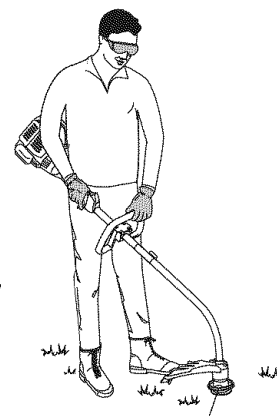

Fig. 2
3. While holding the unit in the operating position (Fig. 2), position the D-handle to the location that provides you the best grip.